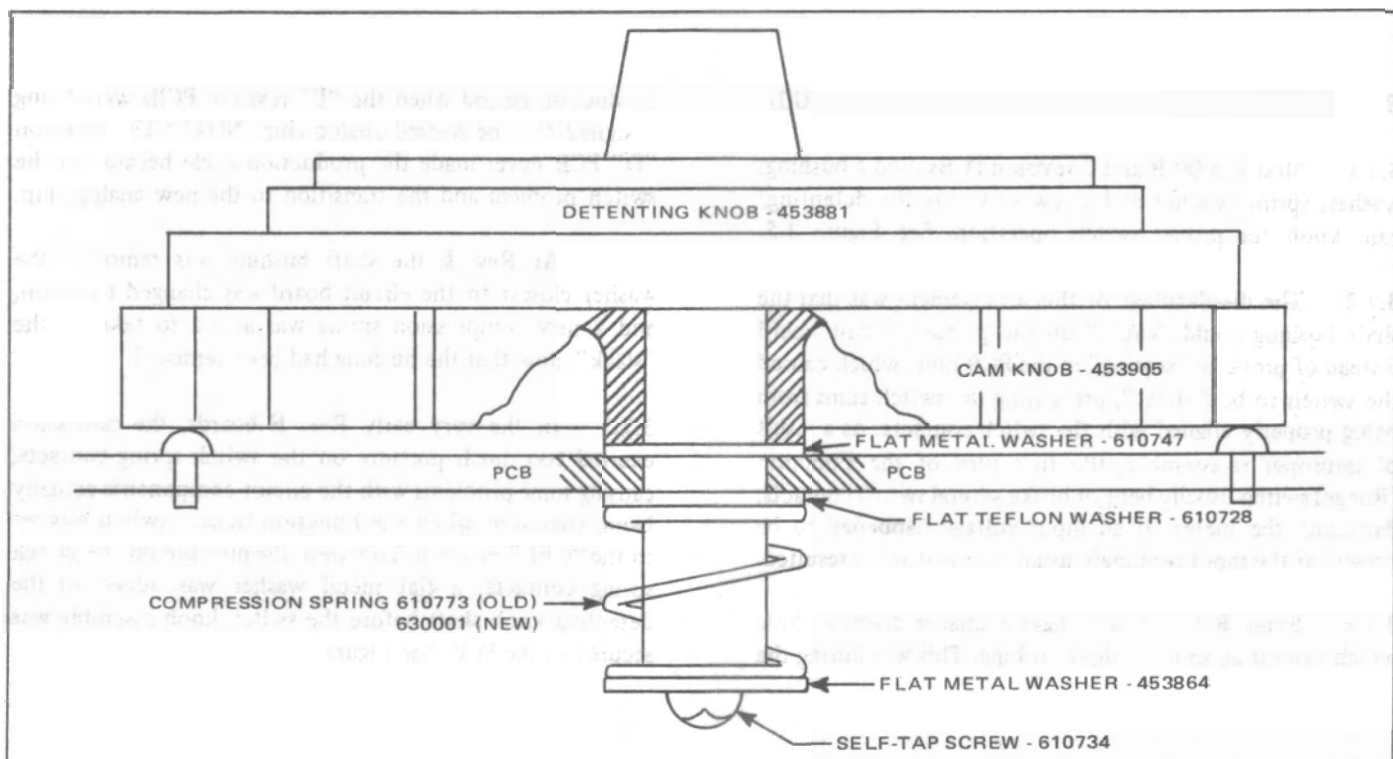

Figure 3.7 - 2100 (A) Switch Profile Drawing
3.8.1 Model 2100 production started about the same time as the 2000 Rev. E, which uses the same switch profile, except that the cam knob is white and has different switch combinations. See Figure 3.7.